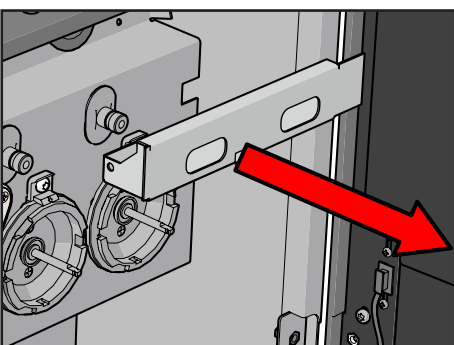

Figure 57. Remove suction tray
12. Remove the suction tray from the machine (see Figure 57). Clean the tray and replace the filter if necessary, see 7.9.